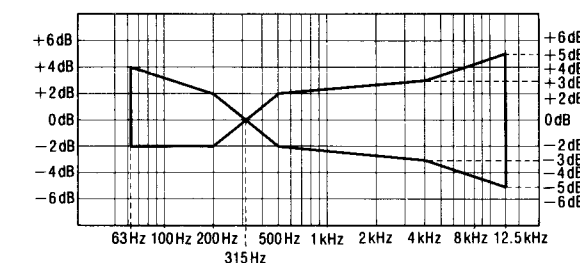

Fig. 8
4. Playback the signal recorded in step 3, and check that the level of each output frequency is within the range shown in Fig. 8 in comparison with the reference frequency (1kHz).